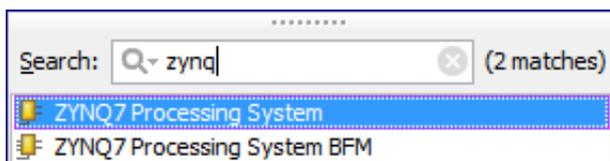

Figure 1.13: Adding ZYNQ7 Processing System from IP Catalog
- (d) Enter **zynq** in the search field and select the **ZYNQ7 Processing System**, as shown in Figure 1.13. Be careful not to select the **BFM** version and press the **Enter** key on your keyboard.